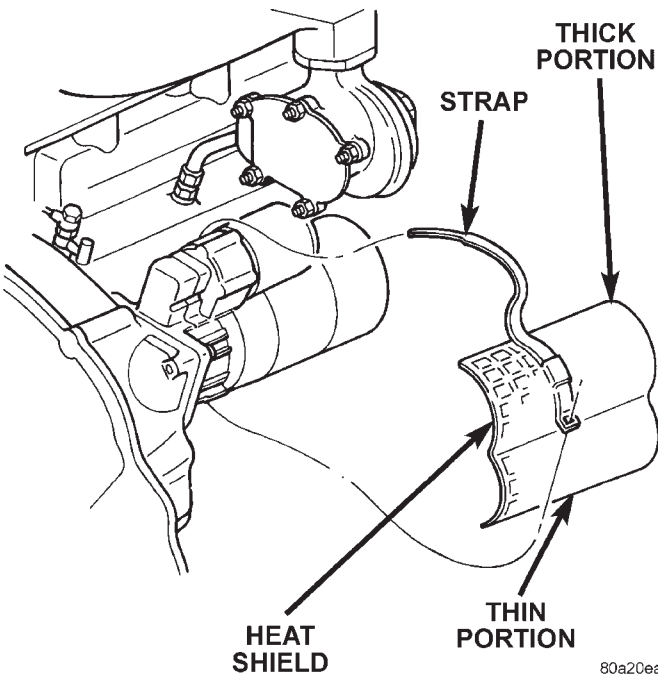

Fig. 2 Starter Heat Shield Remove/Install
- (5) Remove the strap that secures the starter heat shield and remove the heat shield from the starter (Fig. 2).
- (6) Remove the three bolts that secure the starter mounting flange to the transmission adapter plate.
- (7) Lower the starter far enough to access and remove the wire harness connections from the solenoid.
- (8) Remove the starter from the vehicle.
- (9) Reverse the removal procedures to install. Tighten the starter hardware as follows: